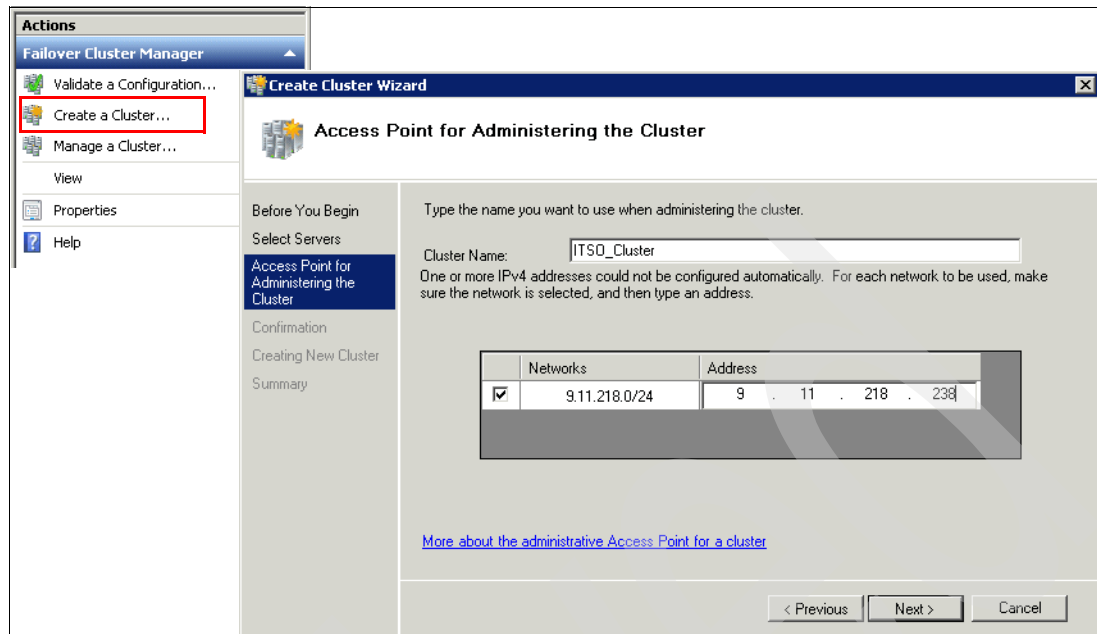

Figure 5-89 Create Cluster wizard
1. To create a cluster, run the **Create a Cluster** wizard under the *Actions* pane from the *Failover Cluster Manager* window as seen in Figure 5-89.
3. Enter a host name and IP address for your cluster as in Figure 5-89. This IP address will be a virtual administrative IP for your whole cluster.